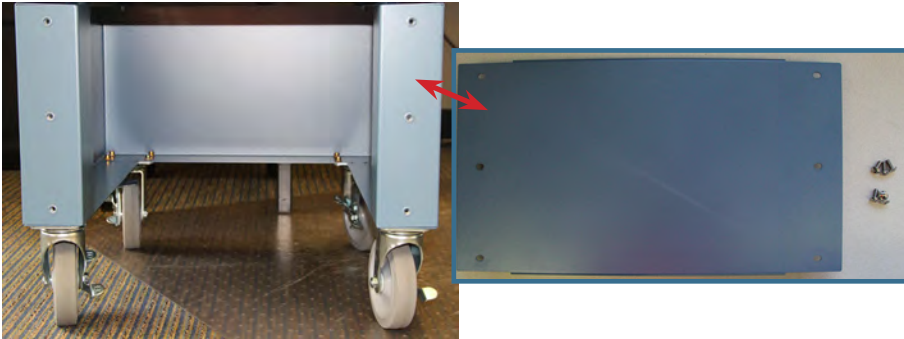

Figure 2
2. Using a #2 Phillips screwdriver, remove the six screws securing the back panel of the cart (Figure 2).